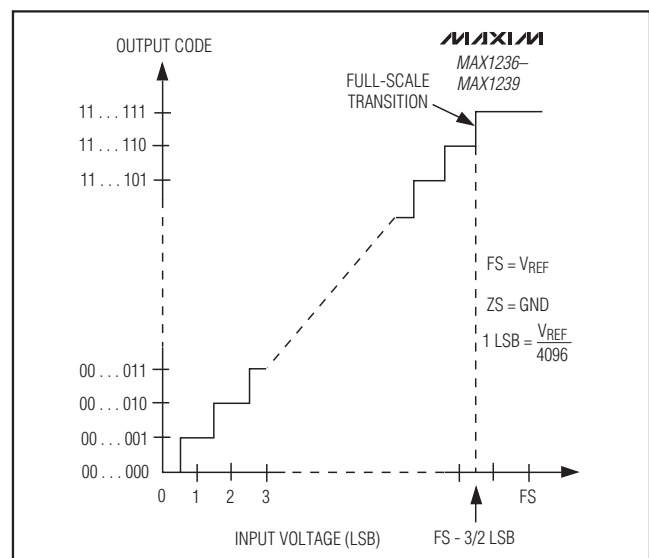

Figure 12. Unipolar Transfer Function
Output data coding for the MAX1236–MAX1239 is binary in unipolar mode and two's complement in bipolar mode with 1 LSB = (V_{REF}/2^N) where “N” is the number of bits (12). Code transitions occur halfway between successive integer LSB values. Figures 12 and 13 show the input/output (I/O) transfer functions for unipolar and bipolar operations, respectively.